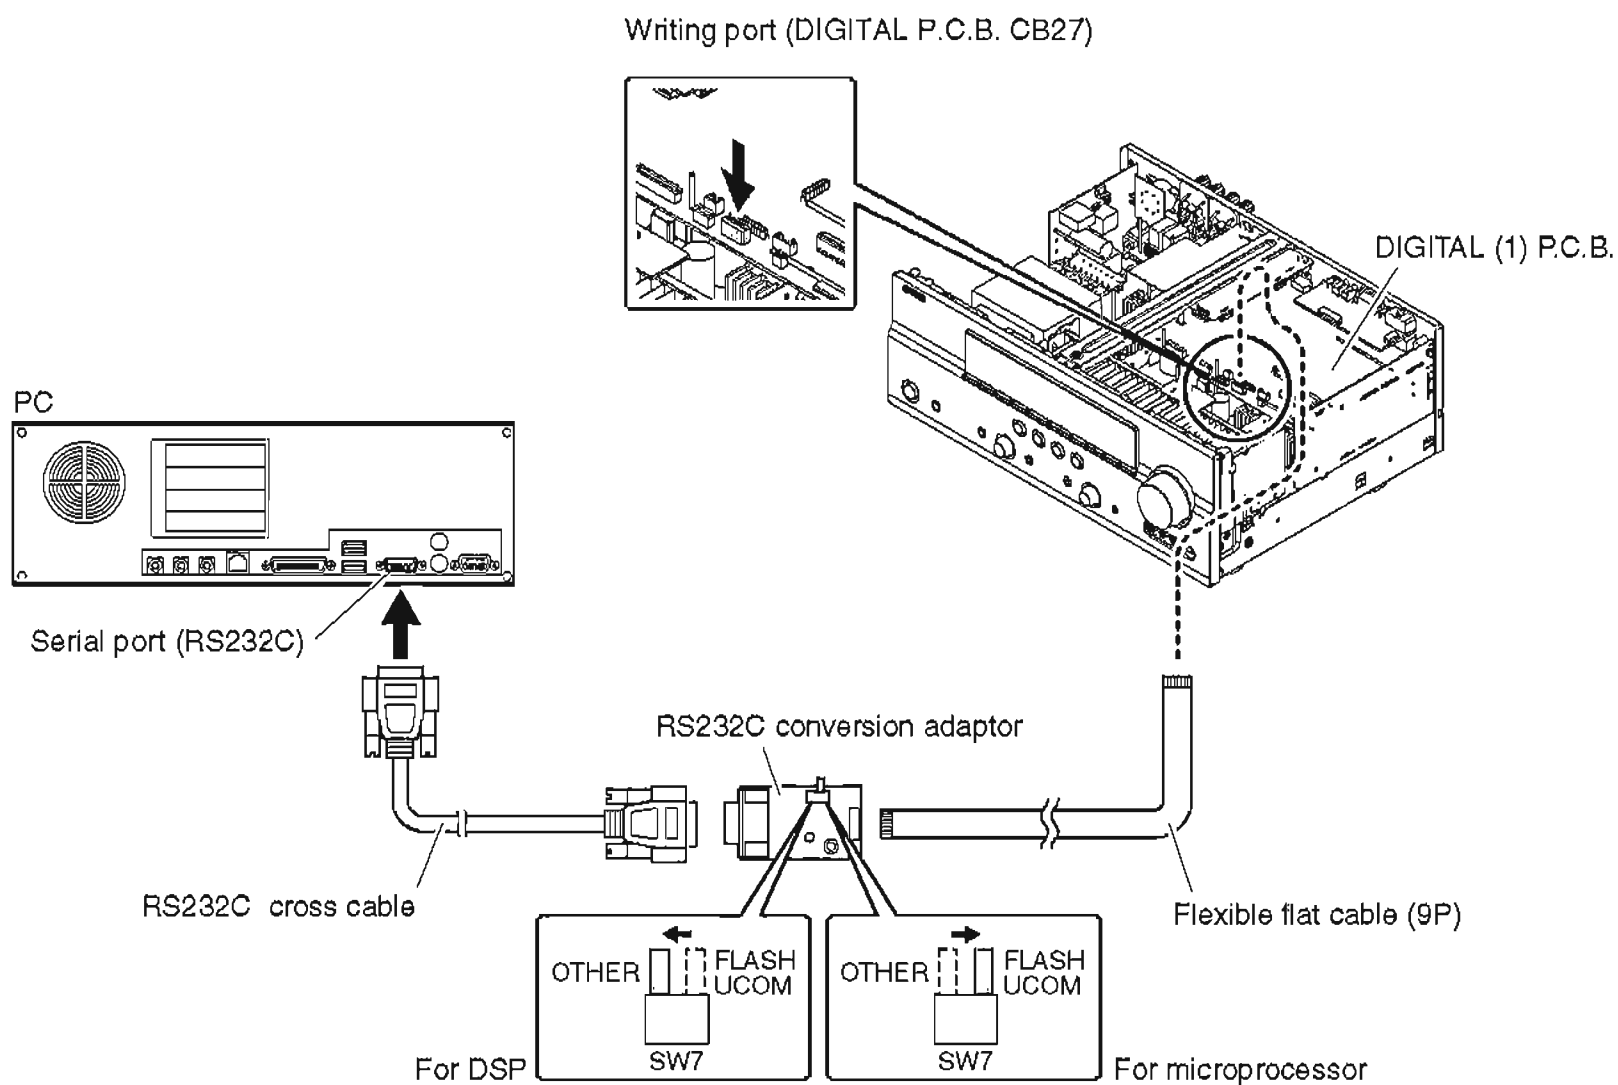

Fig. 1
2. Connect the writing port (CB27 of DIGITAL P.C.B.) of this unit to the serial port (RS232C) of the PC with RS232C cross cable, RS232C conversion adaptor and flexible flat cable as shown below. (Fig. 1)
3. Set the switch (SW7) of RS232C conversion adaptor as shown below. (Fig. 1)